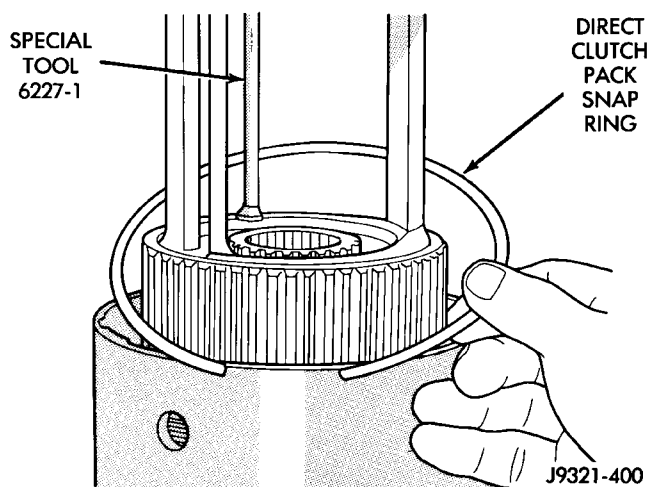

Fig. 237 Direct Clutch Pack Snap Ring Installation
(20) Position Compressor Tool 6227-1 on clutch hub.
(21) Compress clutch hub and spring just enough to place tension on hub and hold it in place.
(22) Slowly compress clutch hub and spring. Compress spring and hub only enough to expose ring grooves for clutch pack snap ring and clutch hub retaining ring.
(23) Realign clutch pack on hub and seat clutch discs and plates in clutch drum.
(24) Install direct clutch pack snap ring (Fig. 237). **Be very sure snap ring is fully seated in clutch drum ring groove.**